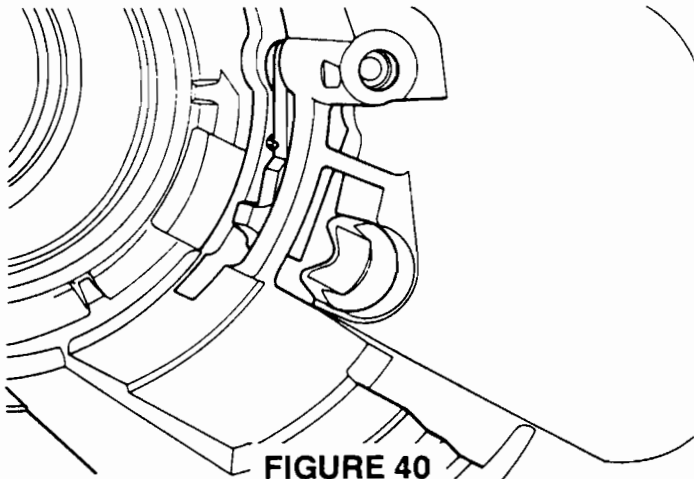

FIGURE 40
8. Install the dowel, parking pawl and spring back into the case (Figure 40). Then reinstall the retaining bolt and torque it to 20 foot-pounds (27 N·m). Next, position the reaction plug in place and secure it with its snap ring. Use care to squeeze the snap ring only enough to install it.